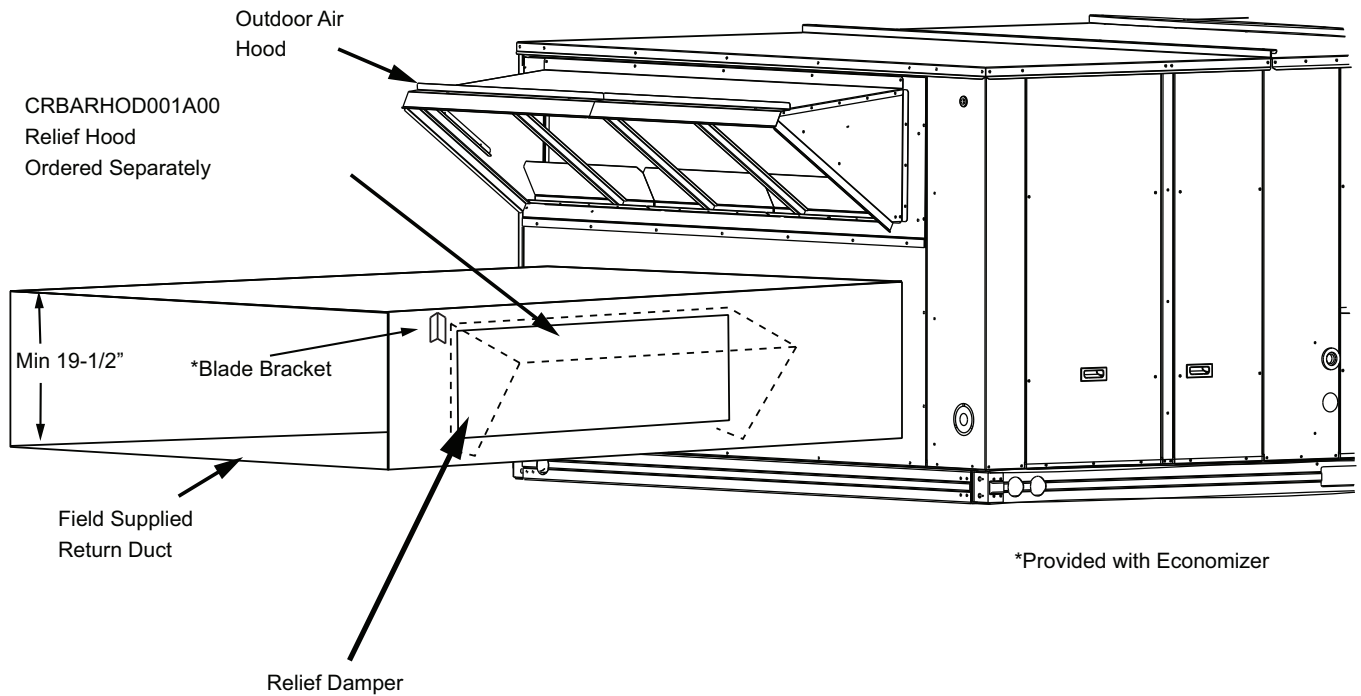

Fig. 36 — Installing CRBARHOD001A00 Over Relief Damper
4. Using the blade brackets, install the relief damper onto the side of the return duct (see Fig. 36). The two brackets and relief damper are provided with the economizer.
Caulk the backside of the mating flanges to ensure a watertight seal. Install the CRBARHOD001A00 over the relief damper and screw to the return duct, as illustrated in Fig. 36.